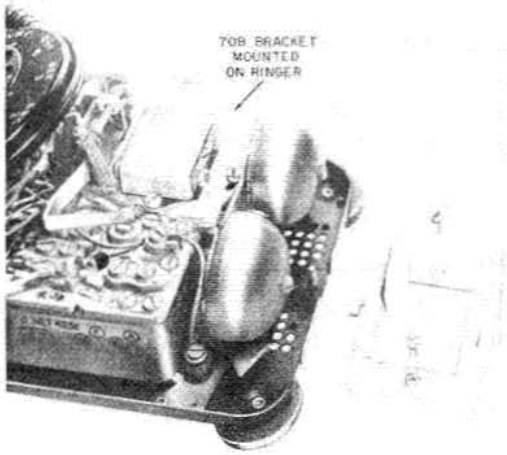

Fig. 12—70B Bracket
- 3.05 When mounting KS-8108, KS-8109, and KS-8110 type buzzers on a 70B bracket (Fig. 12) position the buzzer so that it will not interfere with the electrical or mechanical operation of the telephone set, and so the buzzer adjustment screw is accessible.